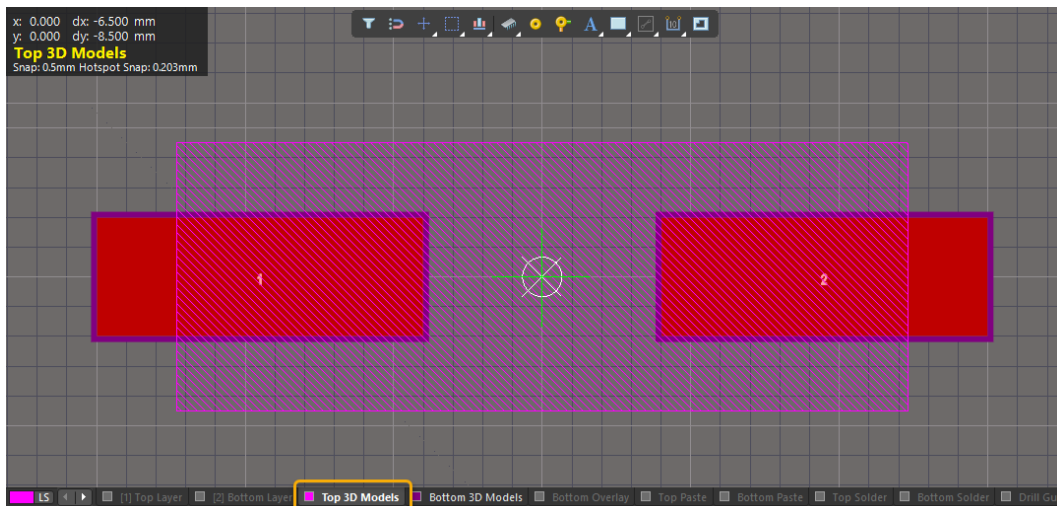

Figure 34. 3D Body Dialog in 2D Mode
51. With the STEP model attached to your mouse, place the 3D Body in the center of your Footprint, as seen in *Figure 34*